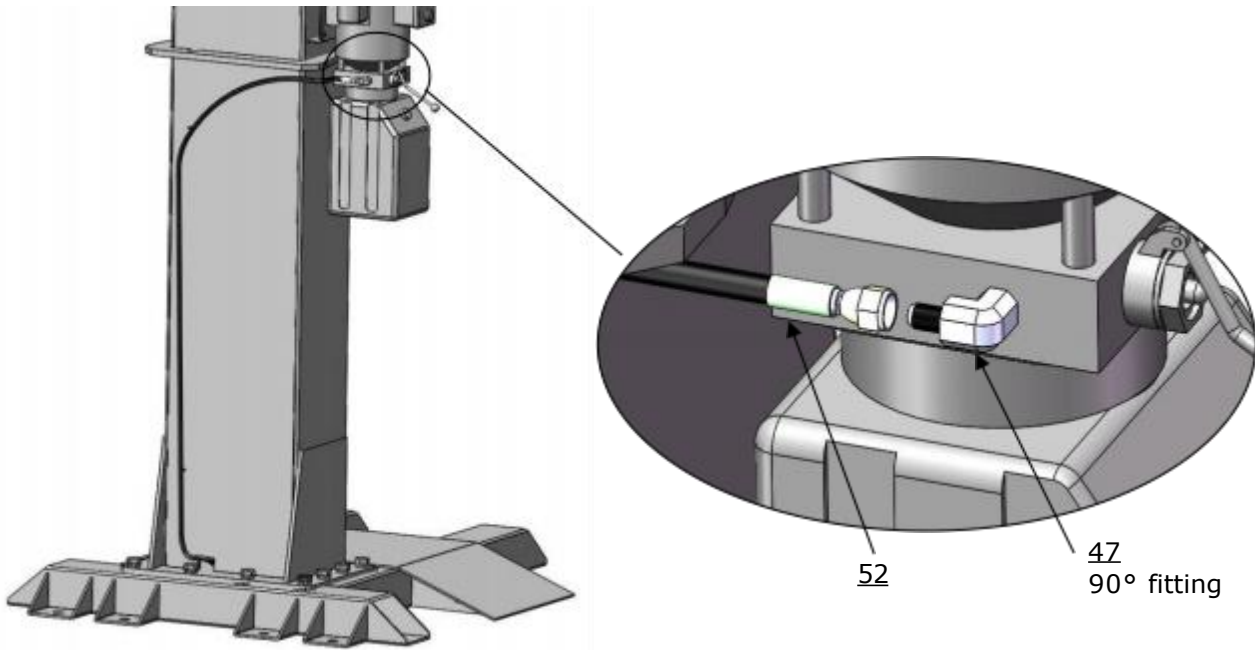

Fig.21
2. Install oil hose. (See Fig.21)